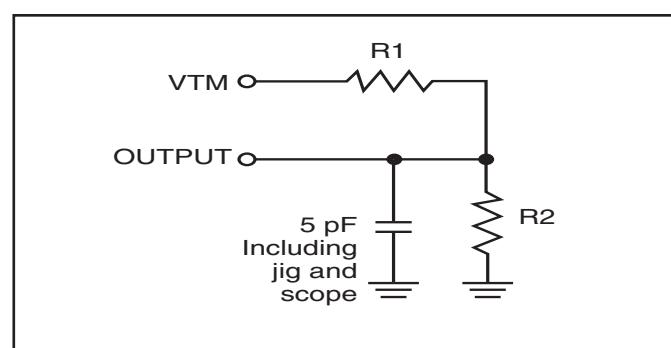

Figure 2.
2. Tested with the load in Figure 2. Transition is measured  $\pm 500$  mV from steady-state voltage.
2. Tested with the load in Figure 2. Transition is measured ±500 mV from steady-state voltage. Not 100% tested.